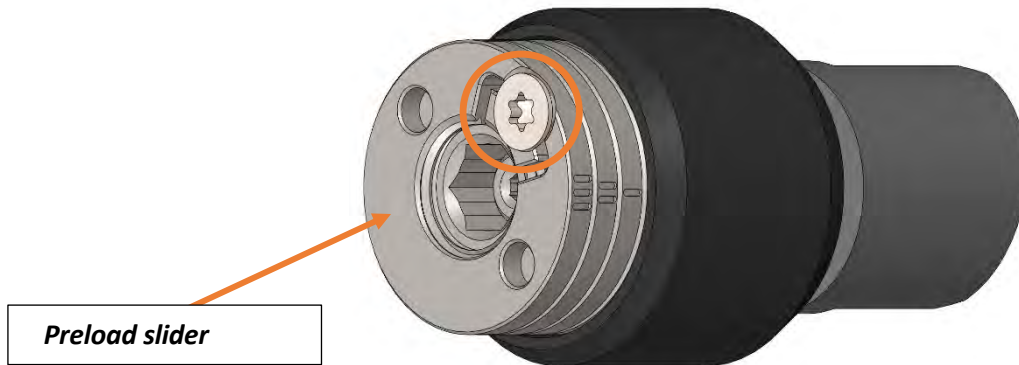

Figure 28
3. Loosen the screw on the top of the knob, highlighted by an orange circle in Figure 28, using the TORX screwdriver while holding the slider in place using the compass wrench. (**Do not remove the screw**);